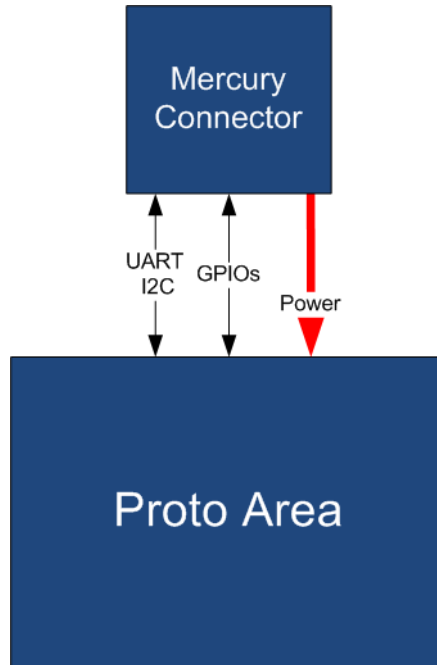

Figure 2 - Block Diagram
The BL810 is a prototype Brainless Board, able to provide prototyping platform for the addition of generic slave functionalities to a MS Base Board (BB). Figure 2 shows the BL810 block diagram.